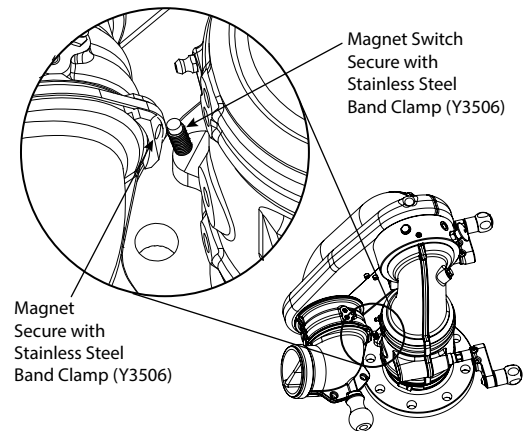

Figure 4.2.1
2. Secure the sensor to the monitor's inlet as shown in figure 4.2.1.
3. Secure the magnet to exit elbow as shown in figure 4.2.1.